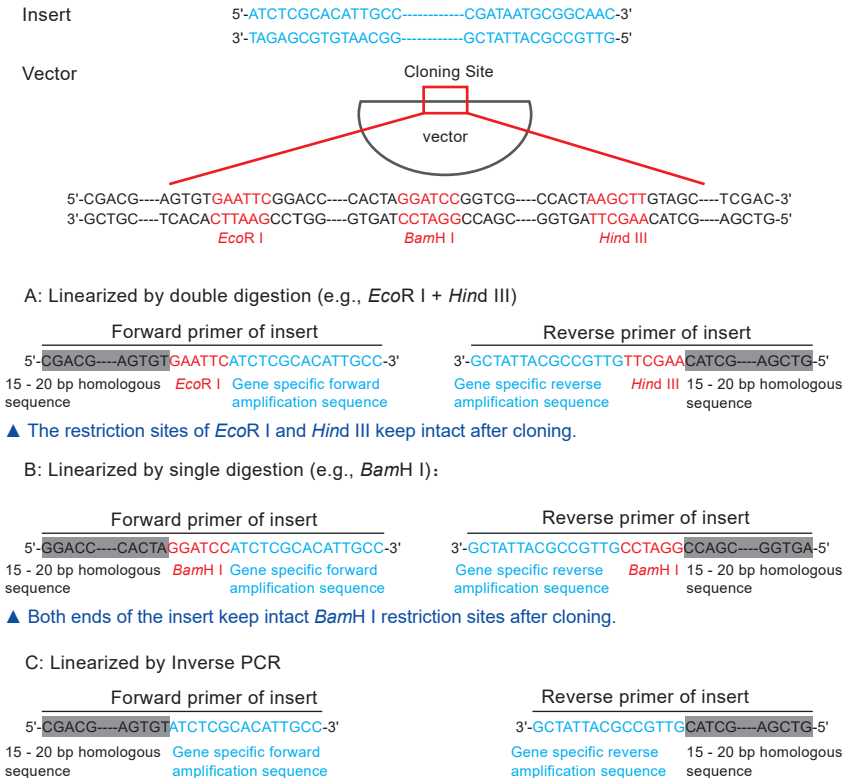

Fig 2. Primer Design for Single-fragment Homologous Recombination
- ▲ Primer design of both side fragments and the recombination end of the vector (Refer to Fig 2. Primer design for single-fragment homologous recombination).